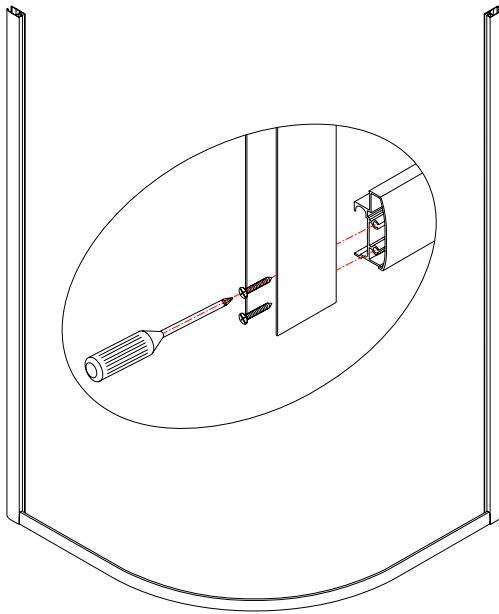

Fig 2
4. Secure the two vertical profiles and the bottom guide rail with ST4.2×30 round head self tapping screws (fig 2);